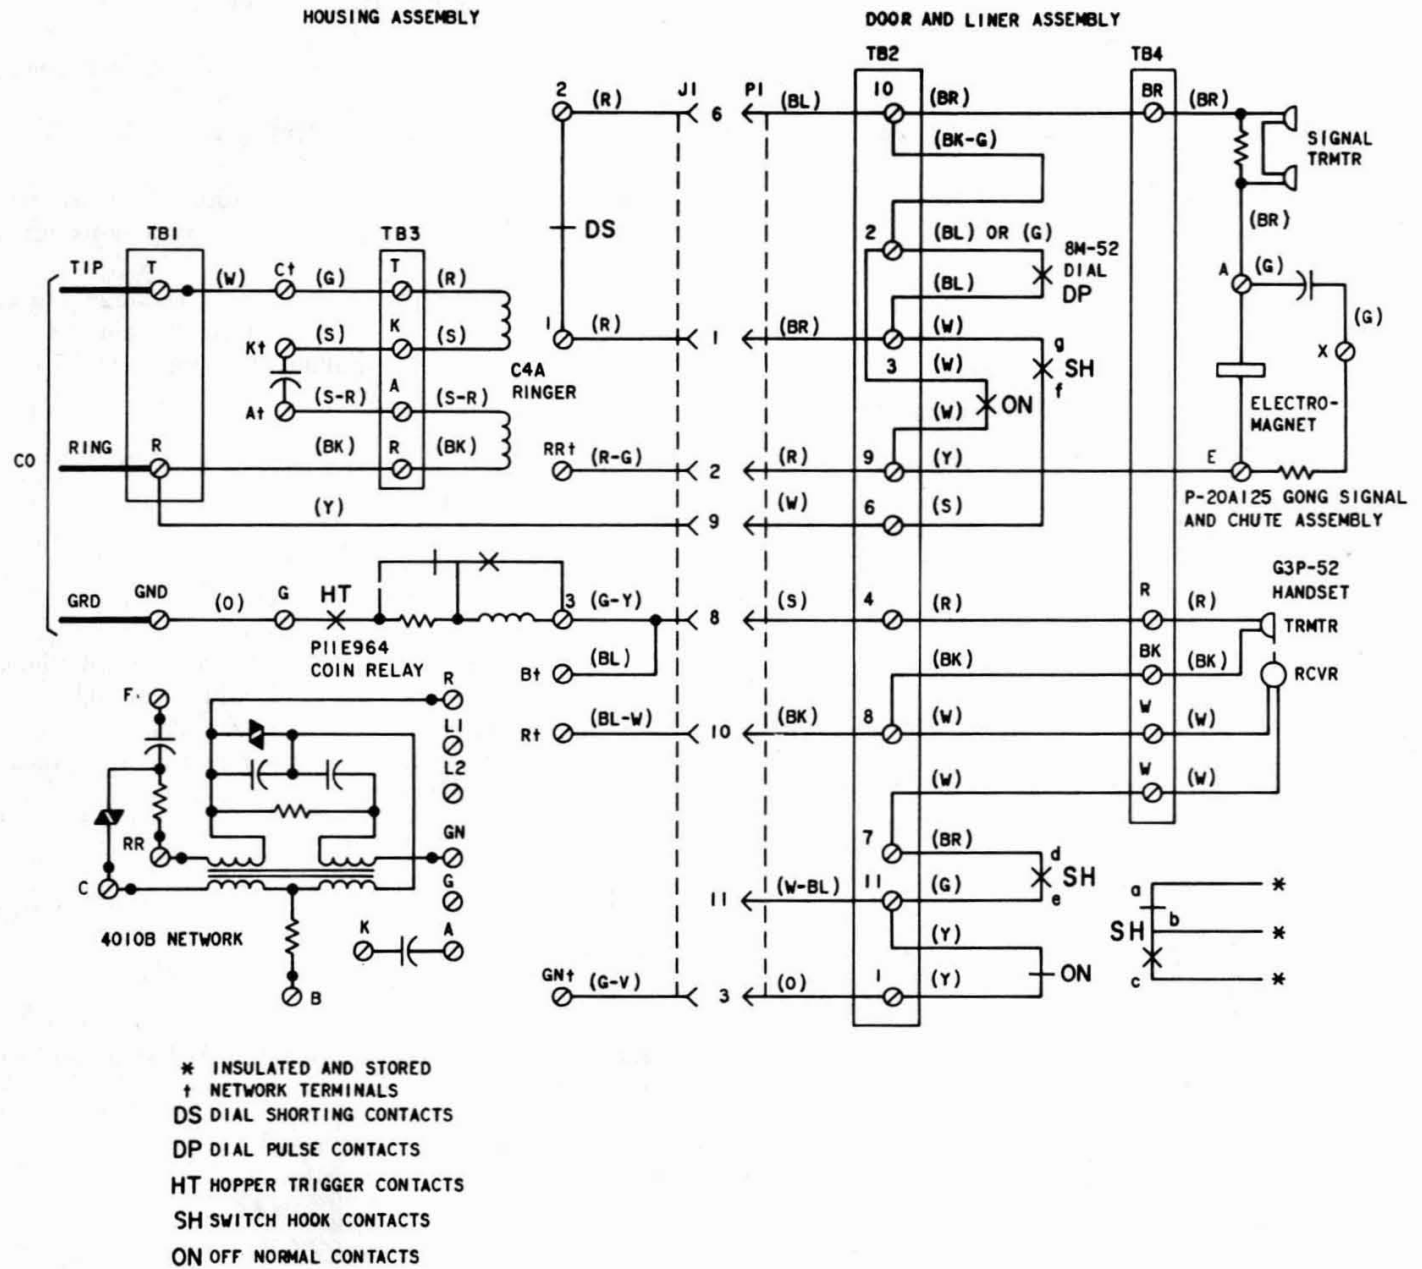

Fig. 10—235G Coin Collector, Connections
- 3.01** For connection information refer to Fig. 10 and 11.